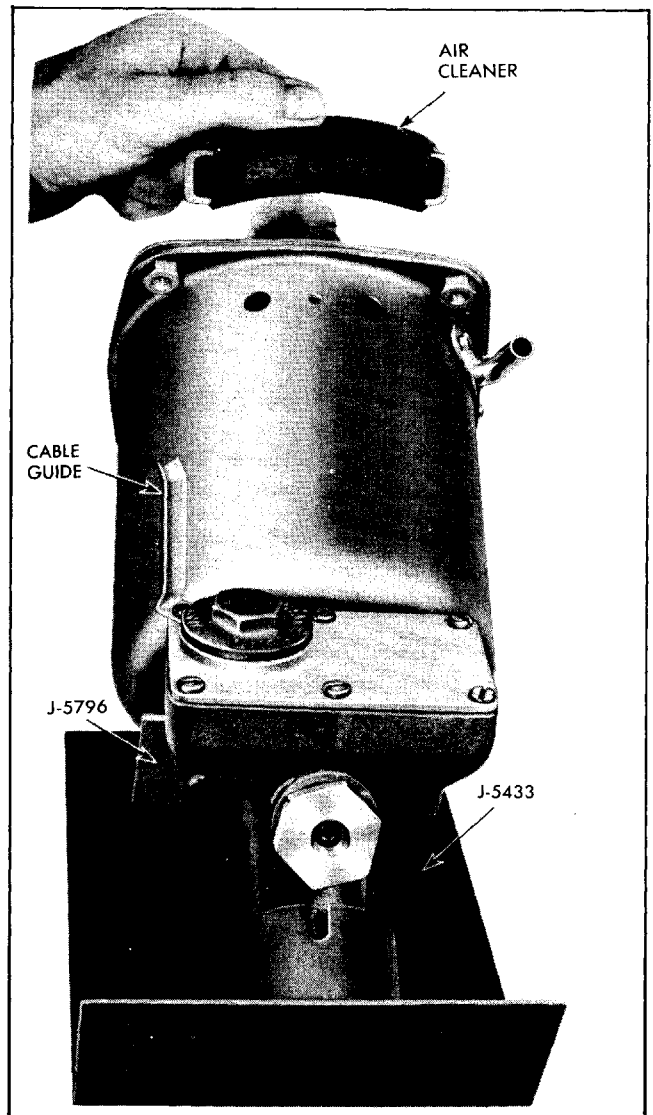

Fig. 5-39 Removing or Replacing Air Cleaner Assembly
2. Clamp master cylinder end of unit in vise or mount unit in special holding fixture J-5433 with adapter J-5796 and remove cable guide (Fig. 5-39). Remove screw that holds air cleaner unit outside of power cylinder. Removal of the air cleaner unit must precede disassembly of internal parts to avoid damage to large leather piston cup inside power cylinder housing.